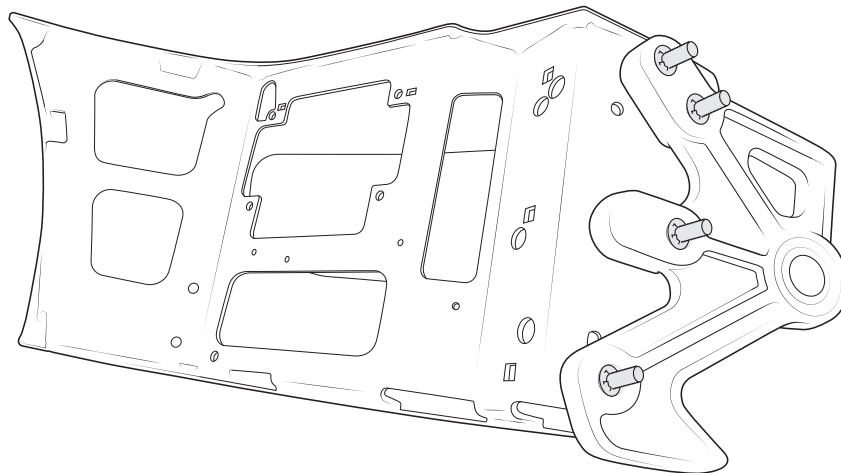

Figure 12
1. Assemble the tow loops and corners using M12x60 carriage bolts and push nuts as shown (fig.12).